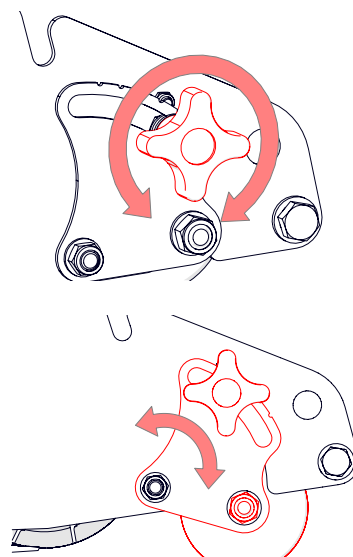

Fig.9E - Adjust the cut height adjuster (SuperSix).
SuperSix models - Manually loosen the adjuster knob on each side to allow the quadrant mechanism to slide and alter front roller height (Fig. 9E).
7. Repeat step 6 for the second position on the other side of the cassette (Fig. 9E).